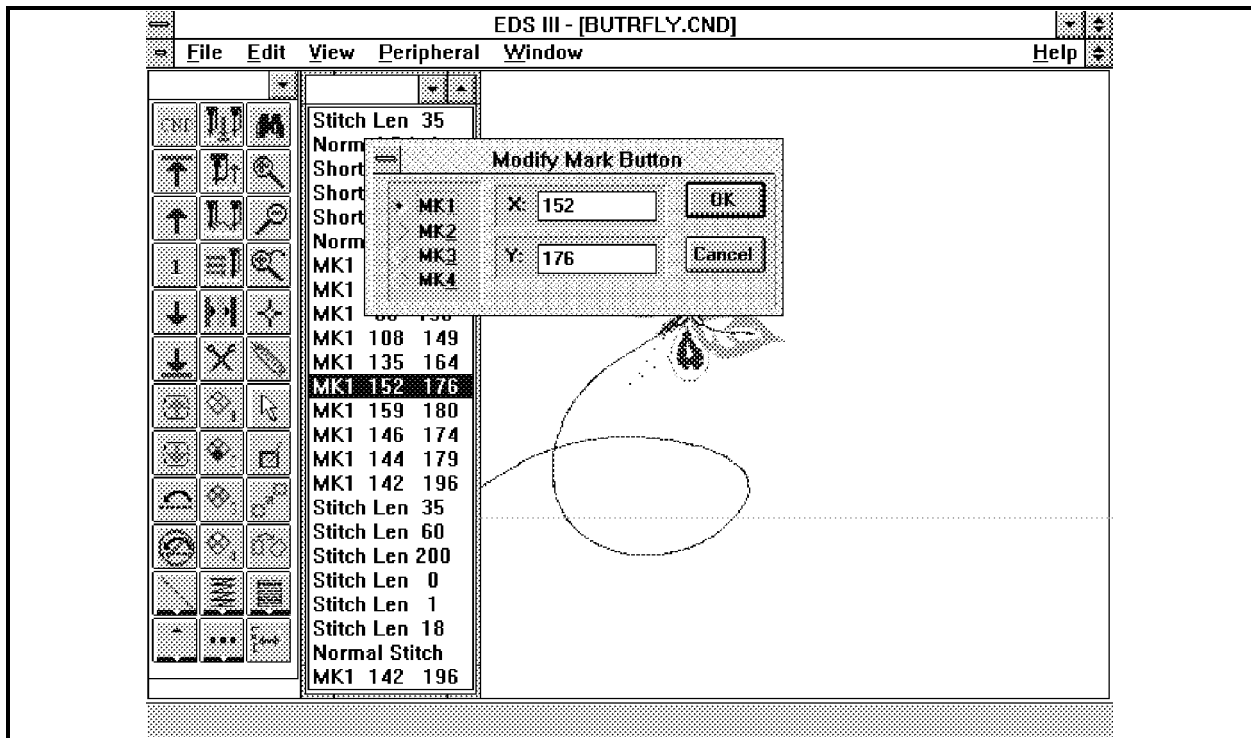

Figure 1-11
Method 3. Press the Enter key and the Modify Mark Button dialog box will appear on the screen (see Figures 1-11 and 1-12). Change the X or Y coordinates of the mark point to the desired value and click OK.
Method 4. Double click on the mark point in the stitch list with the mouse. The Modify Mark Button dialog box (see Figures 1-11 and 1-12) appears on the screen. Change the X-Y values for the desired mark point and click OK.
- Method 2. Press the Enter key at the computer keyboard and the Modify Mark Button dialog box will appear on the screen (see Figures 1-11 and 1-12). Click on the Mark Point button which you wish to change the selected mark point to and click on OK.
- Method 3. Double click on the mark point in the stitch list with the mouse. The Modify Mark Button dialog box appears on the screen (see Figures 1-11 and 1-12). Click on the desired mark point select button. Click OK.